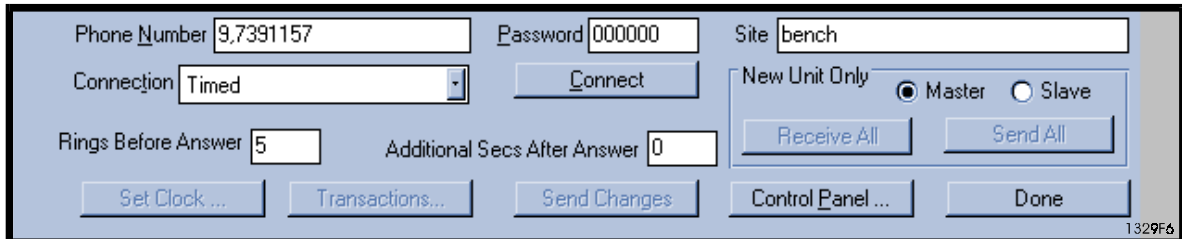

Figure 6: Communicate Screen (X1/X3)
4. **Call A Unit** - Click on "CALL A UNIT" in the Communications menu. The Communications screen displays (Figure 6).